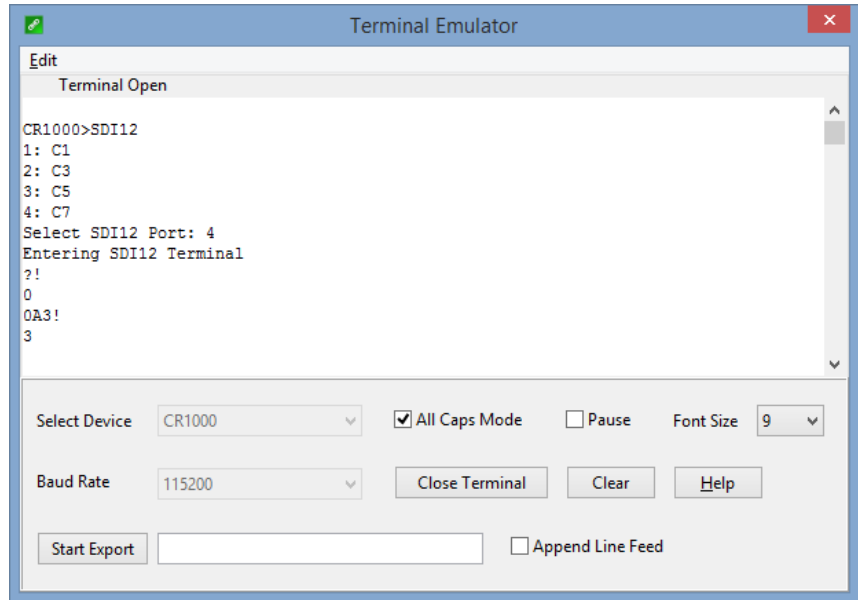

FIGURE C-4. CR1000 example of using the SDI-12 transparent mode to change the SDI-12 address from 0 to 3. Sensor is connected to control port 1.
10. To change the SDI-12 address, type **aAb!**, where *a* is the current address from the above step and *b* is the new address (see FIGURE C-4). Press
10. To change the SDI-12 address, type **aAb!**, where *a* is the current address from the above step and *b* is the new address (see FIGURE C-4). Press Enter. The sensor will change its address and respond with the new address.